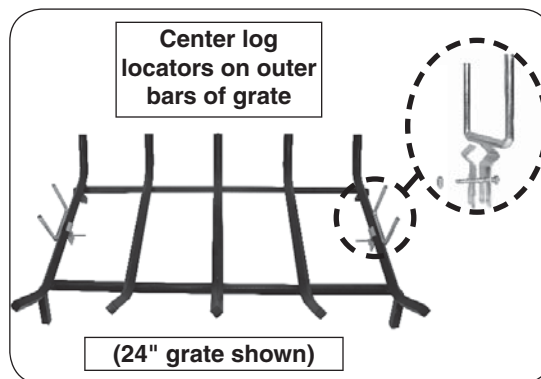

Fig. 10-1 Attach log locators to grate
1. Locate the grate (outside of the fireplace) and attach the log locators to the 2 outer bars of the grate using the provided screws and nuts (see Fig. 10-1).
The log locators should be positioned on the middle of the outer bars and oriented as shown in Fig. 10-1. Tighten the log locators in place.